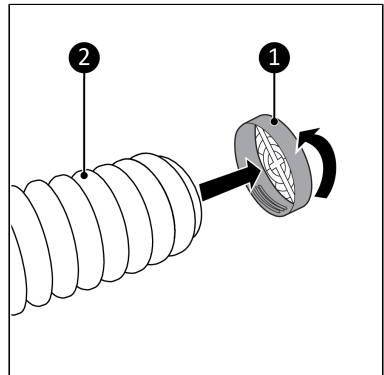

Figure 25.
2. Connect the window kit connector (Figure 25, pos. 2) to the other end of the hot air outlet hose (Figure 25, pos. 1).